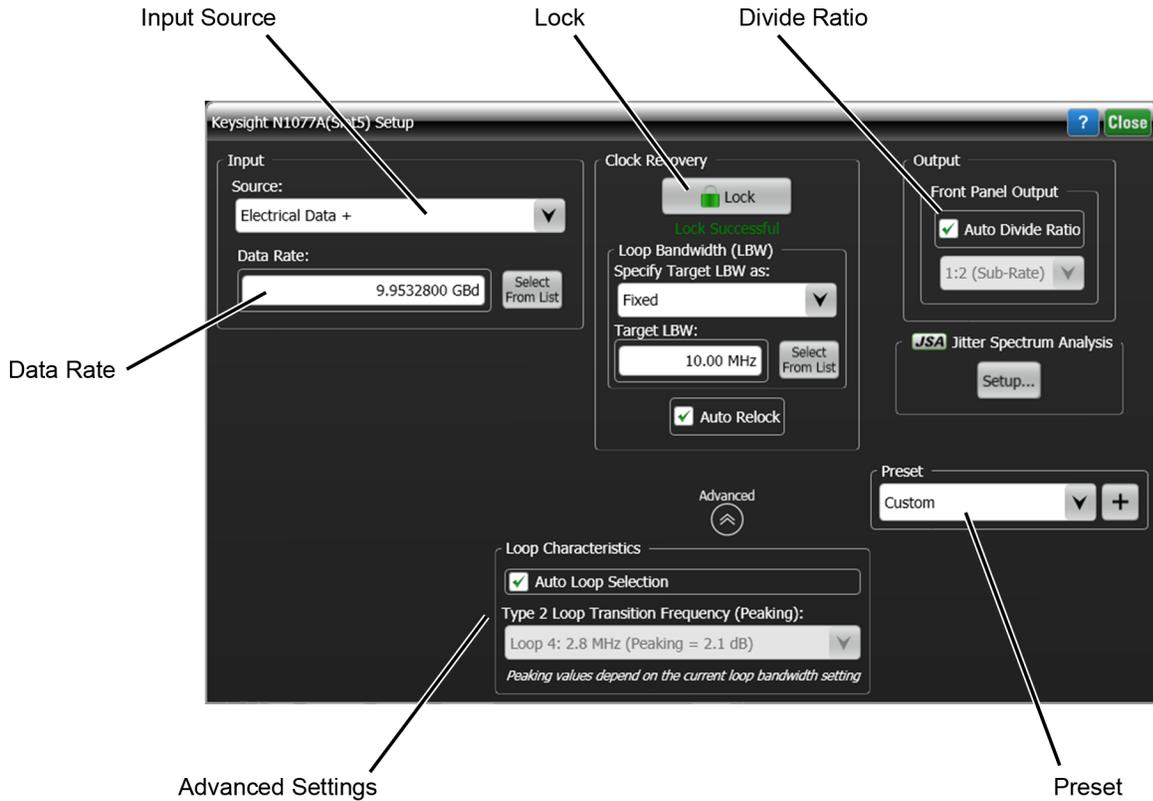

Figure 60. Clock Recovery Setup Dialog Box
6. Click **Setup > Modules > (Slot 6): Clock Recovery**. The dialog box shown *Figure 60 on page 111* is displayed.